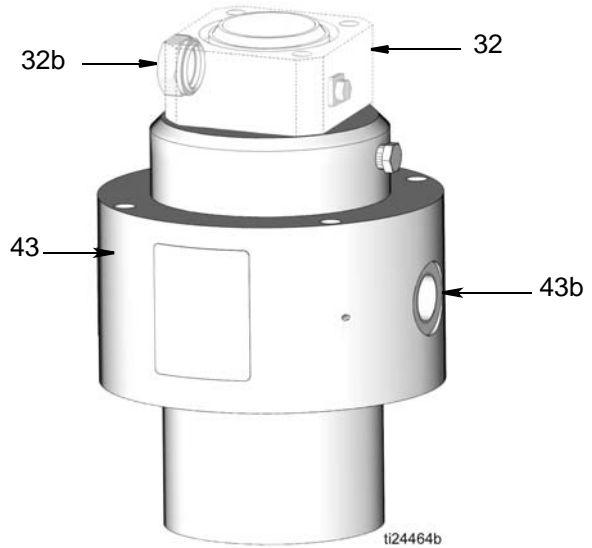

FIG. 25
NOTE: When attaching the motor housing (43) onto the bottom cylinder cap (32), be sure that the port (43b) in the motor housing and the port (32b) in the bottom cylinder cap are facing opposite directions as shown in FIG. 25.